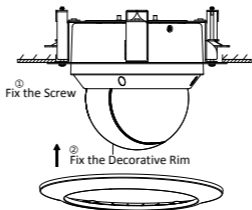

Figure 2-46 Assemble the Decorative Rim
8. Fix the decorative rim with the bubble and the decorative rim will be attached to the in-ceiling bracket automatically, as shown in Figure 2-46.